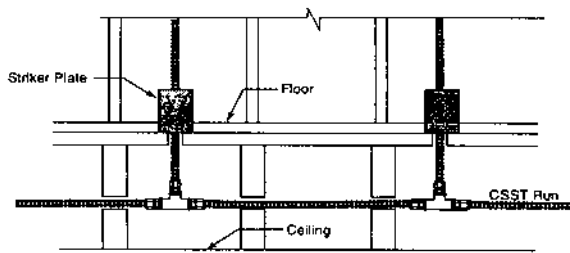

Figure: 4-16 Multiple outlets along main tubing run
3. Multiple gas outlets – when multiple outlets are supplied from a single run of piping, each downstream outlet branch can be connected to the main run using a tee fitting which can be located in a concealed location. Figure: 4-16.